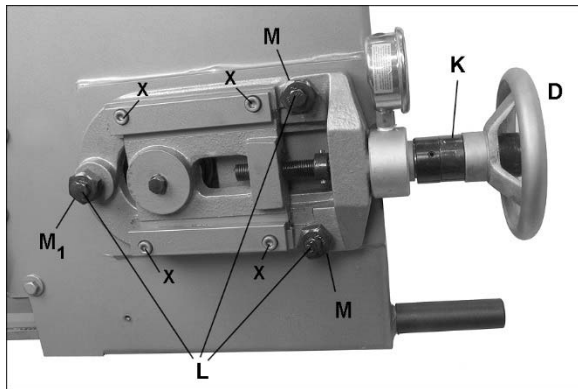

Figure 7-3: blade tension and tracking
Refer to Figure 7-3.
Blade tension has been set by manufacturer at approximately 1800 kg/cm2 (25,000 psi) for the supplied blade, but should be verified by the operator. Turn handwheel (D, Figure 7-3) clockwise; if collar (K) slips out of position, then blade is properly tensioned. Continue turning handwheel until collar re-engages. NOTE: Simply turn handwheel, do not press on it.
If tension mechanism will not move blade, loosen and then re-tighten socket head cap screws on gibs (X, Figure 7-3).
4. Loosen center locking screws (L, Figure 7-3) in all three hex adjustment screws (M) on tensioning mechanism.